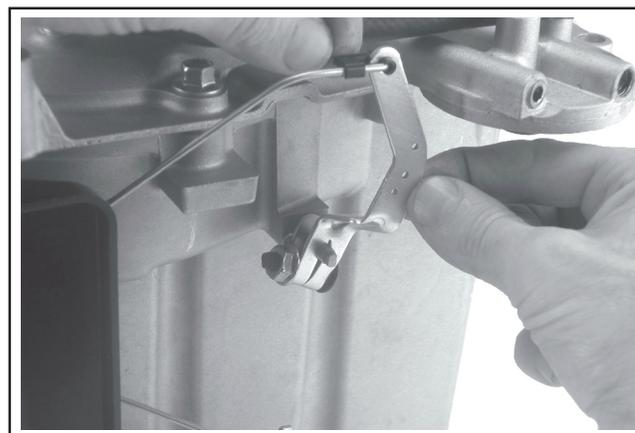

Figure 10-63. Governor Lever Installed on Shaft.
1. Install the governor lever\* onto the governor shaft with the lever section up. Connect the throttle linkage using the black linkage bushing. See Figure 10-63.